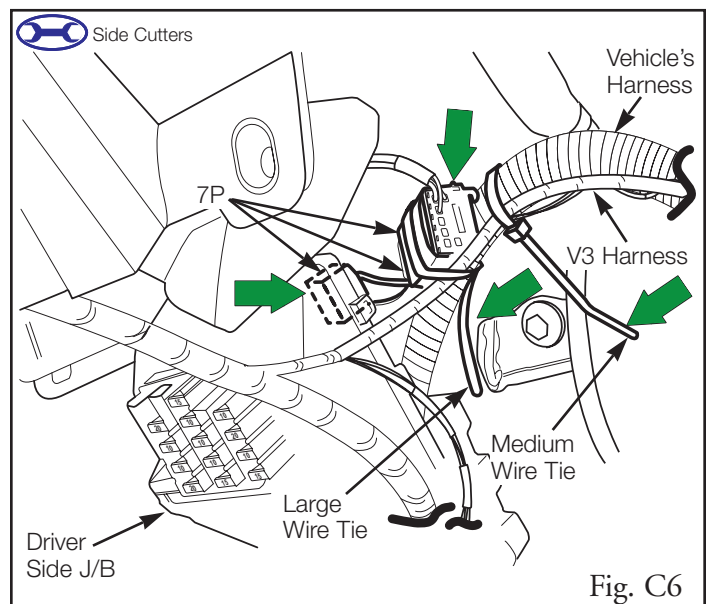

Fig. C6
7. Plug in the V3 harness' 7P connectors between the vehicle harness' 7P connector and the Driver Side J/B. (Fig. C6)
8. Route the V3 harness toward the steering column, then secure it and the 7P connectors to the vehicle's harness. (Fig. C6)